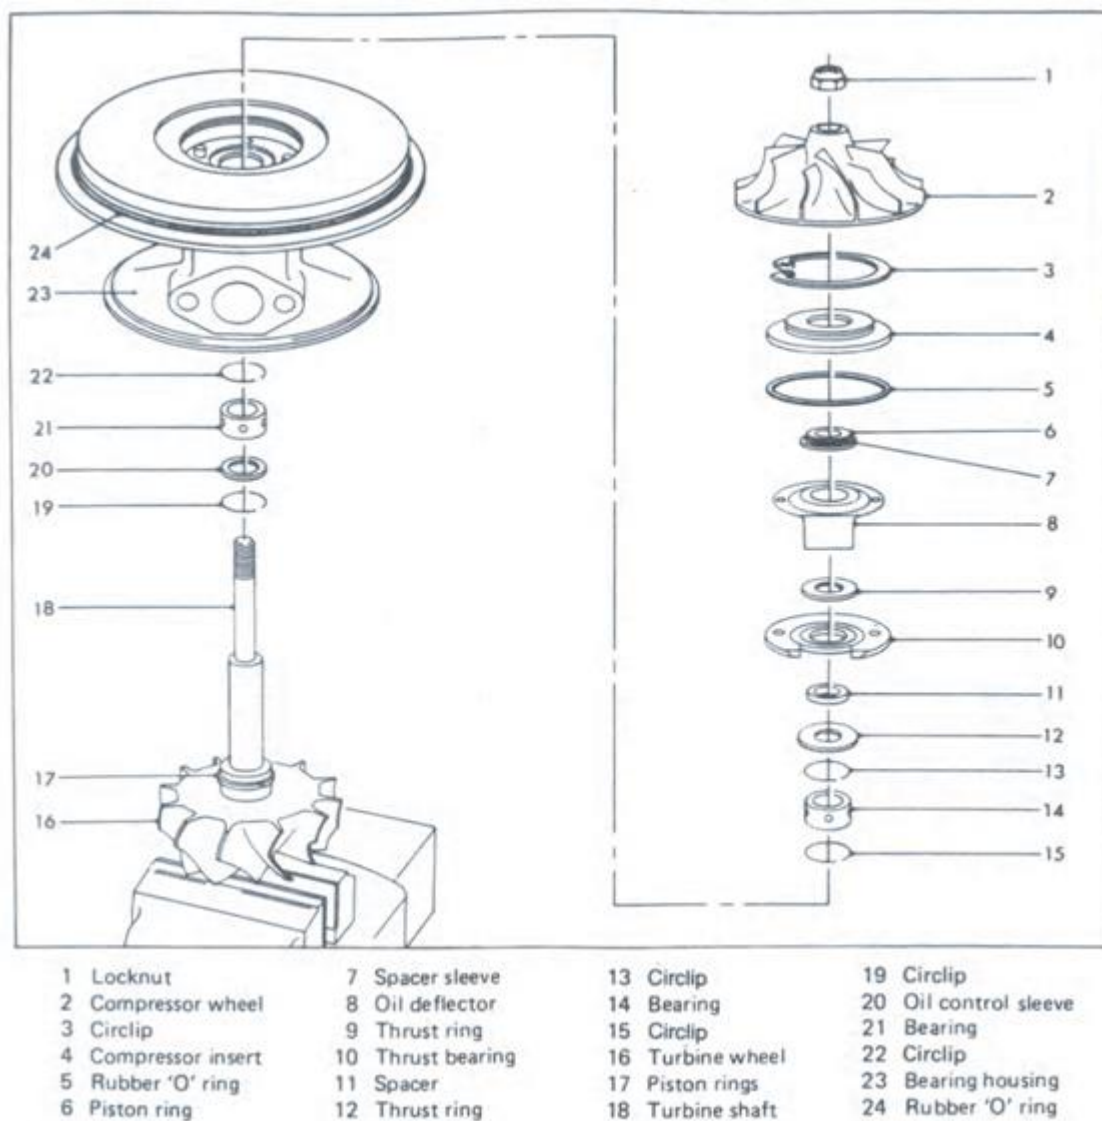
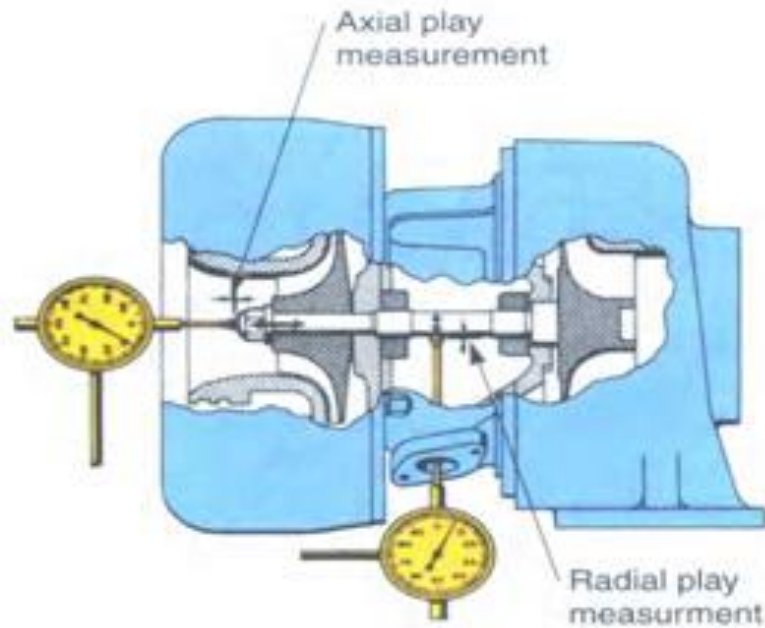

Fig. 11
Fig. 17
- A wear evaluation in accordance with the manufacturer's specifications will determine whether parts are replaced or reused. Refer to Fig.11 for an exploded view of the layout of the turbocharger parts described below.
- Whenever the turbocharger is overhauled the shaft bearings (21, 14) (Fig.11) must be renewed, regardless of their condition.
- Throughout assembly, lubricate all rotating parts with clean engine oil. Install the bearing retaining circlip (19) into the turbine end of the housing, taking care not to scratch the bearing bore.
- Fit the oil control sleeve (20) and the turbine end bearing (21) into the bore.
- Install the two inner bearing retainer circlips (22, 15), and the compressor end bearing (14) in the bore.
- With the turbine wheel (16) mounted in a vice as shown in Fig .11, fit the piston ring seals (17) into the oil ring grooves.
- Install the turbine shaft (18) in the bearing housing (23) from the turbine end.
- Install the compressor wheel (2) on the turbine shaft. If it is an interference fit, it will have to be heated in hot clean engine oil to expand it before sliding it onto the turbine shaft. (Refer to the manual for correct oil temperature.) Secure the wheel with the self- locking nut, tensioned to the required torque.
- In order to check for correct running clearances of the rotating assembly, mount a dial indicator onto the compressor end of the bearing housing and measure the axial movement of the turbine shaft (refer to Fig 17). Reposition the dial indicator mounting so the rotating assembly can be checked for radial clearance (Fig 17 next page).
- Install a new 'O' ring (24) onto the bearing housing and fit the compressor housing, at the same time aligning the assembly marks on both housings. Refit the 'V clamp and tighten.
- Check the radial movement of the shaft and compare the reading of the dial indicator with the specifications given in the Workshop Manual (Fig. 17).